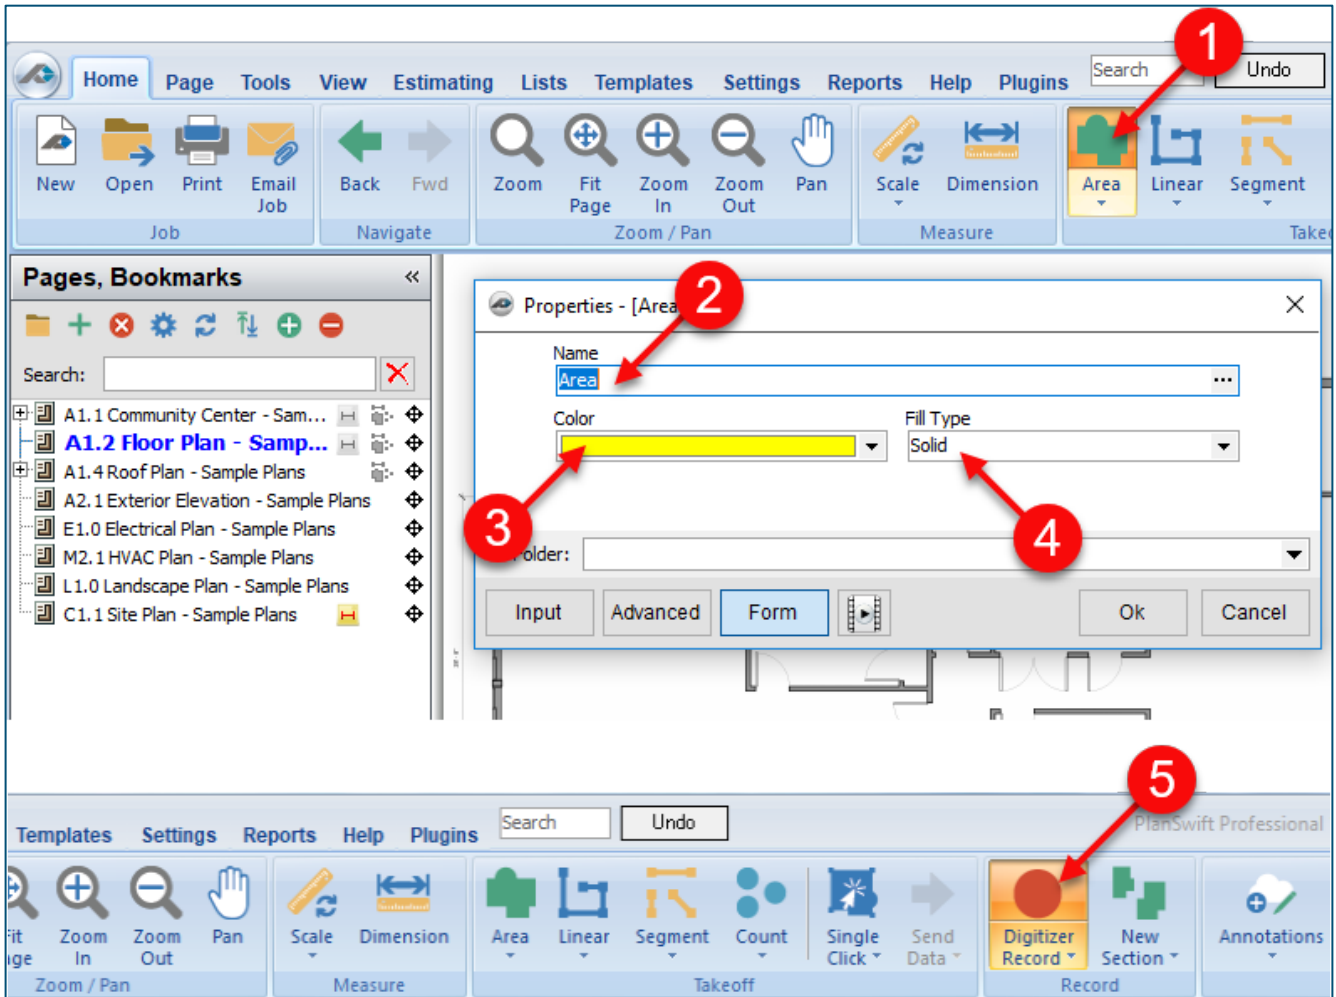

Figure 10-A
- Click where you want the **Area** takeoff to begin. This will establish the first **Point**, which is the starting **Point** of the takeoff item (Fig. 10-B).